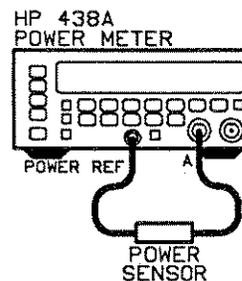

Figure 3-3. Front Panel Checks Setup (1)
- Connect a power sensor with associated cable to channel A input as shown in Figure 3-3. The error message should disappear and display will show either a power level, or PLEASE 0, and Error 15. Annunciators WATT A, 100% CF, and A on.